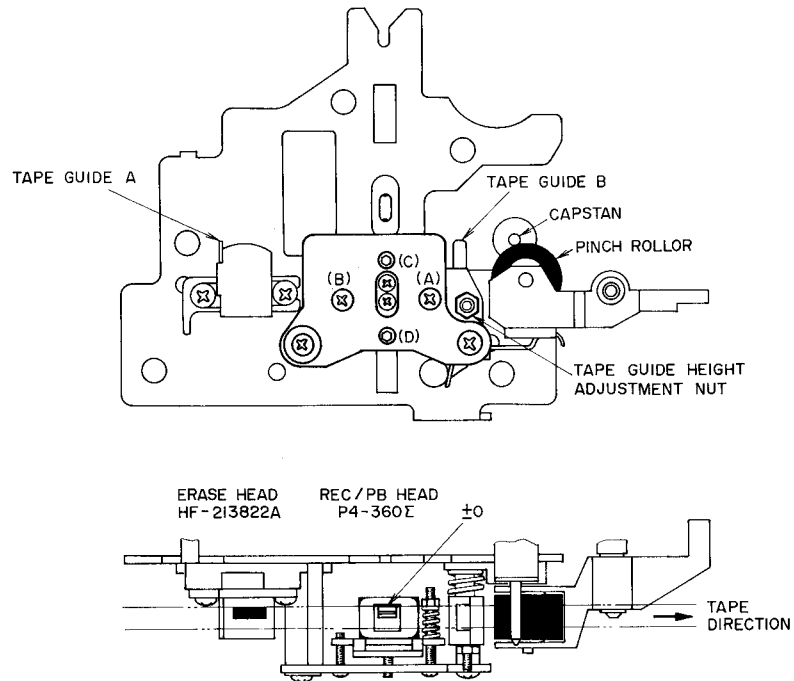
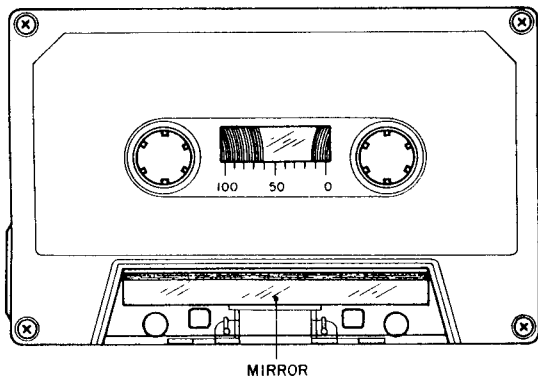

Fig. 8 Head Adjustments
Fig. 9
(Refer to Fig. 8 and Fig. 9)
- 1) When using an ordinary cassette, the tape guides and heads, etc. are not visible. As shown in Fig. 9 use a cassette tape from which part of the cassette case has been cut out and a mirror installed for easy visibility of the head area when making tape guide height adjustment.
- 2) At playback mode, using the Tape guide (A) shown in Fig. 8 as standard for height, adjust tape guide (B) height with tape guide height adjustment nut so that the tape runs smoothly and does not catch on the tape guides.
2. RECORDING/PLAYBACK HEAD HEIGHT ADJUSTMENT (Refer to Fig. 8)
- 2) As shown in Fig. 8, adjust head height with screws (A), (B), (C) and (D) until the upper edge of the tape is the same height as the upper edge of the left channel REC/PB head core.
3. RECORDING/PLAYBACK HEAD AZIMUTH ALIGNMENT ADJUSTMENT (Refer to Fig. 8)
- 1) Playback a 10 kHz pre-recorded cassette azimuth alignment test tape and adjust screw (A) shown in Fig. 8 to obtain maximum output on both channels.
4. When a mirror installed cassette test tape as shown in Fig. 9 is required, it can be ordered from AKAI Electric Co.